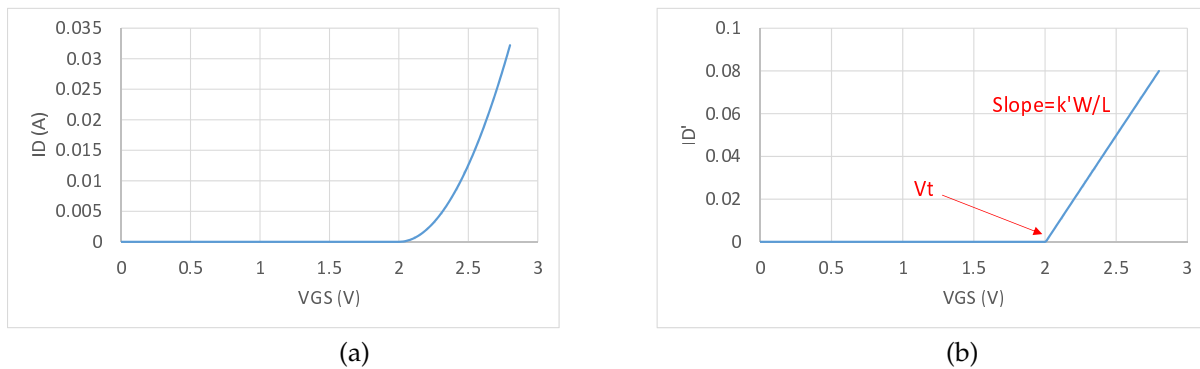

Figure 4: NMOS characterization (a)  $I_D$  vs.  $V_{GS}$  (b)  $\frac{dI_D}{dV_{GS}}$  vs.  $V_{GS}$
Figure 4(a) shows the drain current ( $I_D$ ) of an NMOS transistor as a function of  $V_{GS}$ . Transistor parameters such as the threshold voltage ( $V_t$ ) and the transconductance parameter ( $k'W/L$  or  $\beta$ ) can be obtained by taking the derivative of  $I_D$  with respect to  $V_{GS}$ , as depicted in Fig. 4(b). In this plot,  $k'W/L$  (or  $\beta$ ) is the slope of the line, whereas  $V_t$  is the intersection with the  $V_{GS}$  axis.
- Plot the derivative of  $I_D$  as a function of  $V_{GS}$  and find  $V_t$  and  $k' \frac{W}{L}$  as depicted in Fig. 4(b). In Excel,  $dI_D/dV_{GS}$  can be calculated as shown with the column **ID'** in Fig. 5, starting with the formula (B3-B2)/(A3-A2). However, due to noise in the measured data, taking the derivative without filtering can result in the **ID'** plot shown in Fig. 6(a). Using decimation provides filtering and reduces the noise in ID'. The column **ID' (decimated)** in Fig. 5 shows the starting formula (to be copied to all cells below), and the resulting plot is shown in Fig. 6(b). In this plot, a decimation factor of 300 is used. The corresponding  $V_{GS}$  should also be shifted as shown with the **VGS (adjusted)** column in Fig. 5.